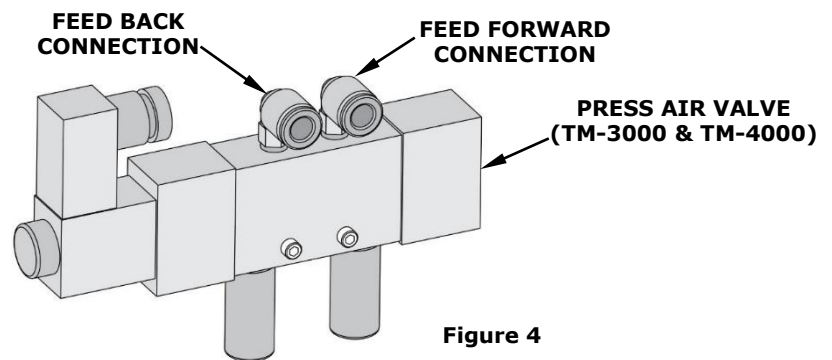

Figure 4
- When using the TM-3000 or TM-4000 presses, connect the tubes to the press air valve as shown in Figure 4.